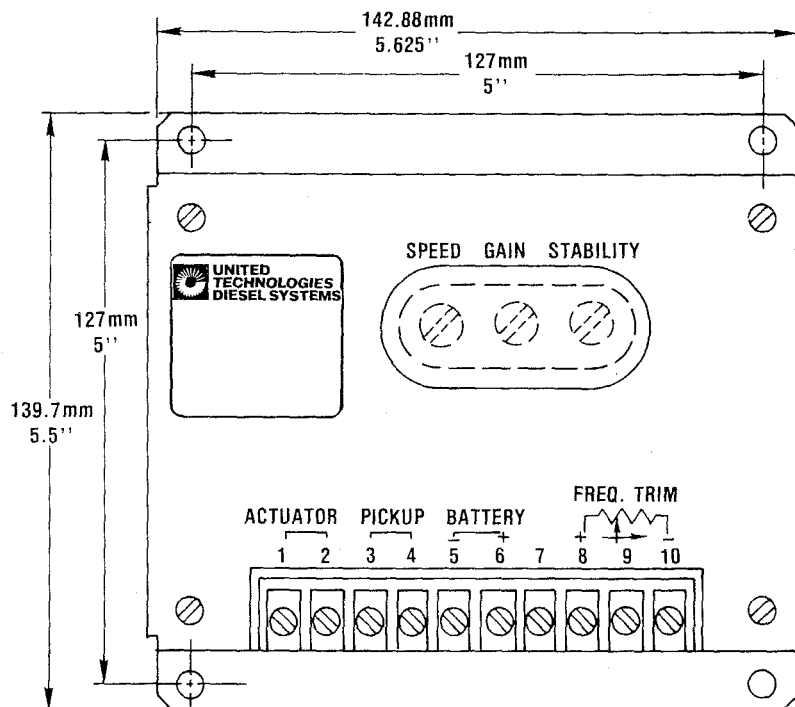

Figure 1. ECD 67-2000 series dimensions
- Dimensions ..... See Figure 1